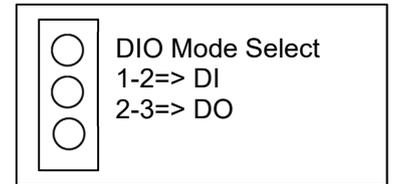

Figure 4.10 - DIO (Digital Input/Output) Jumper Settings
To configure the mode of DIO, the user can locate the pin-headers on the print-circuit board (PCB) inside the chassis of IO5202 as shown in Figure 4.10. Note that these pins can be accessed when the user opened the chassis of IO5202 up. These pin-headers enable the user to use a jumper to short the pins (either pin No.1 and No.2 or pin No.2 and No.3) to manually select whether a DIO channel will be Digital Input (DI) or Digital Output (DO).